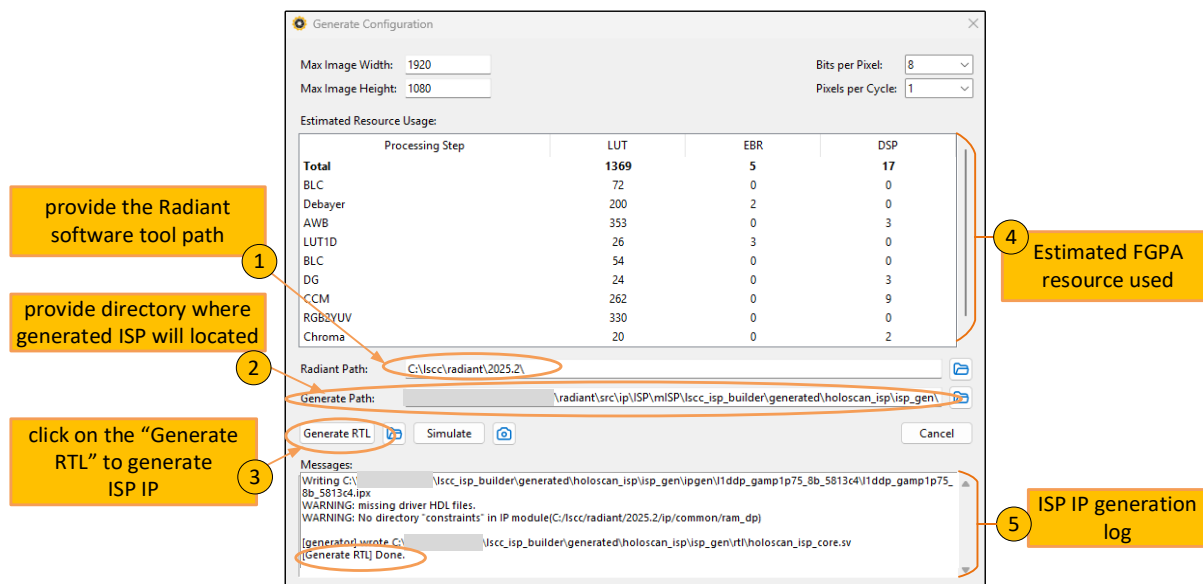

Figure 4.7. Generate Configuration window
3. Click **Generate Configuration**. A pop-up window appears as shown in Figure 4.7.